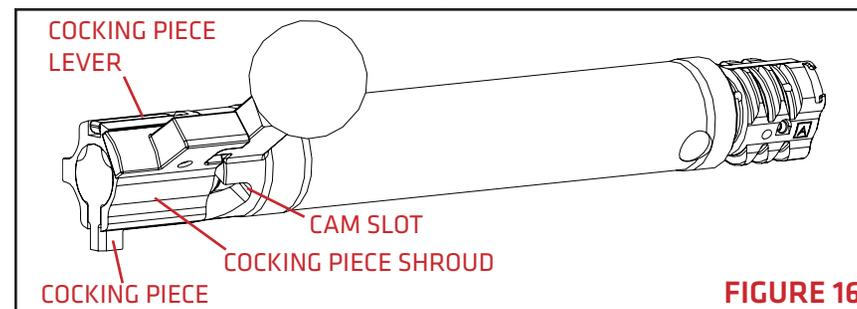

FIGURE 16
- With the bolt removed from the rifle, ensure that the cocking piece shroud is rotated to the cocked position (FIGURE 16).